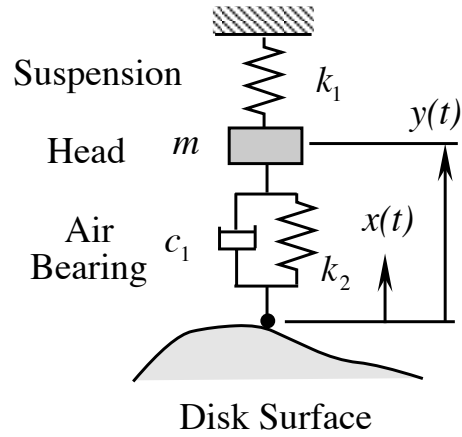

Figure 2: Suspension in computer hard disk drives
2. Figure 2 shows a simplified model to simulate a recording head flying over a rough disk surface in computer hard disk drives. The head has mass m and is supported by a suspension with stiffness k_1 . Moreover, the moving disk surface will generate an air bearing lifting the head slightly above the disk surface (e.g., in the order of 20 nm). The air bearing is simplified as a linear spring with stiffness k_2 and damping coefficient c . Let $x(t)$ be the roughness of the disk surface and serve as the input excitation to the head/suspension system. Moreover, $y(t)$ is the relative displacement of the head to the disk. In real hard disk drive applications, we want to keep $y(t)$ almost constant, so that the head can follow the disk surface to perform read/write operations.